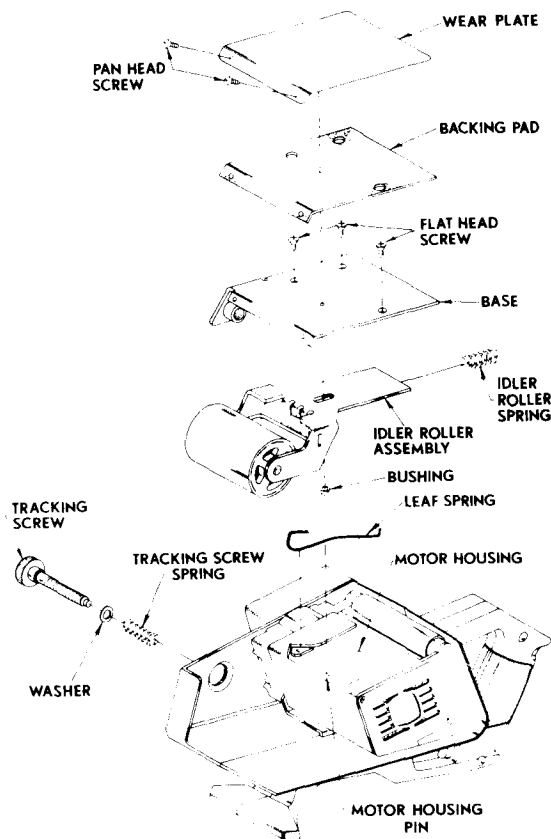

Fig. 9
2. Remove the two pan head screws. Then remove wear plate and backing pad. See Figure 9.